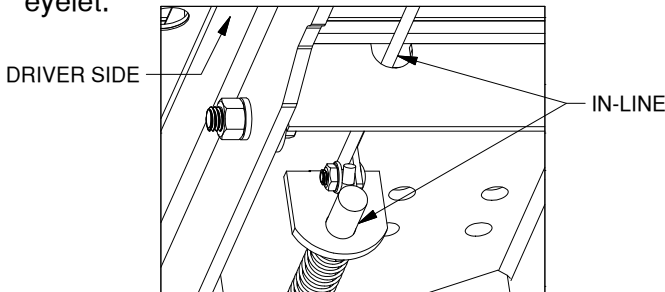

Figure E1: Handle Installation
1. **Insert the handle.** Install the latch pin release handle by inserting it through the slot in the end of the center section on the driver side of the truck. Align the handle eyelet with the square hole in the latch pin so the handle is in line with the latch as shown in figure E1.